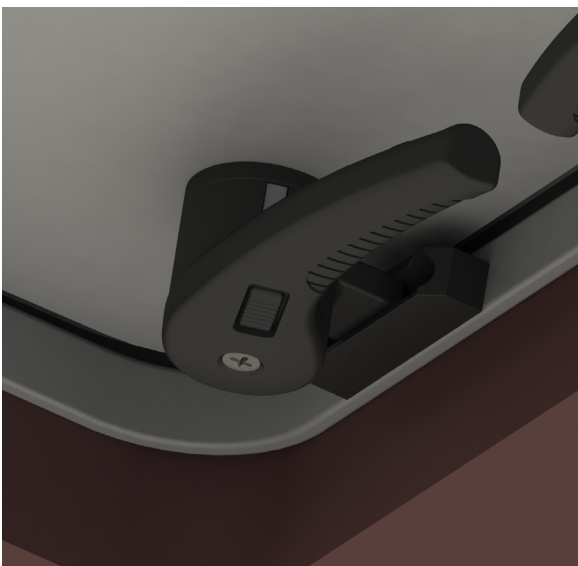

Fig.6
2. To lock the hatch while allowing air to vent, close the handles into the catch block center slots (Fig. 6).